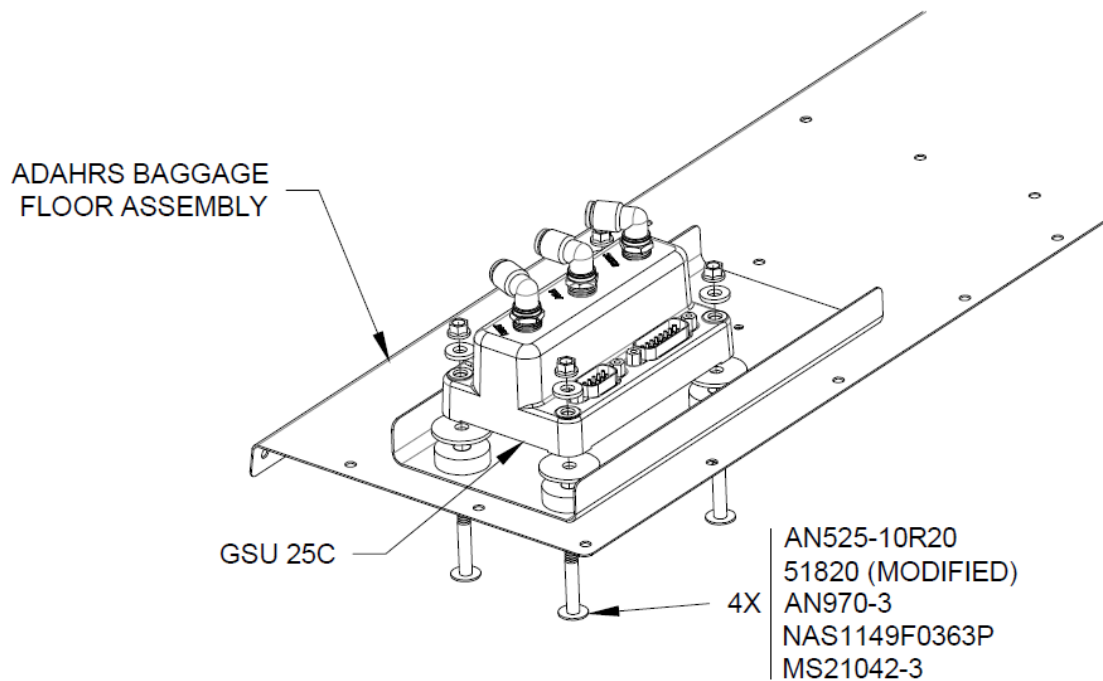
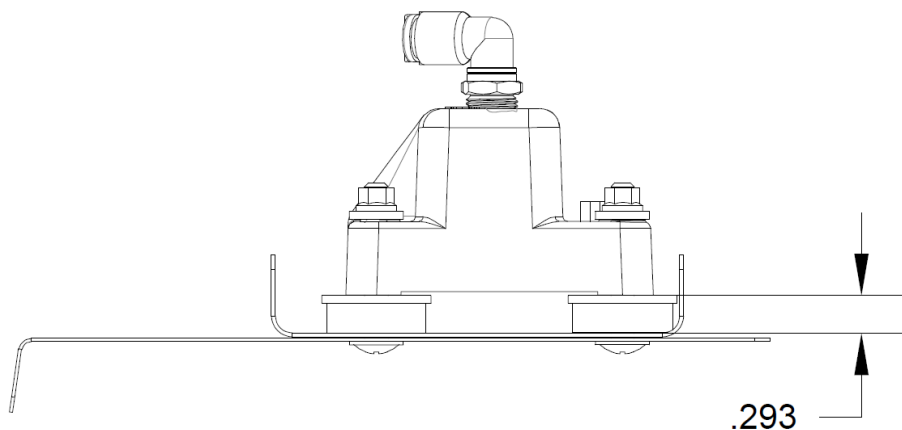

FIGURE 2: INSTALLING ADAHRS WITH ISOLATORS (RV-12iS SHOWN)
FIGURE 3: MEASURING COMPRESSION OF BUSHINGS (RV-12iS SHOWN)
Step 4: Secure GSU25C to ADAHRS Baggage Floor Assembly with new isolators. Tighten the nuts so the GSU25C is lightly resting on the AN970-3 washers. See Figure 2 and Figure 3.
Step 5: Tighten the nuts so that the bushings are compressed evenly. Use calipers to measure the distance between the ADAHRS Baggage Floor Assembly and the top of the AN970-3 Washers. Adjust as necessary. Refer to Figure 3 for dimensions.